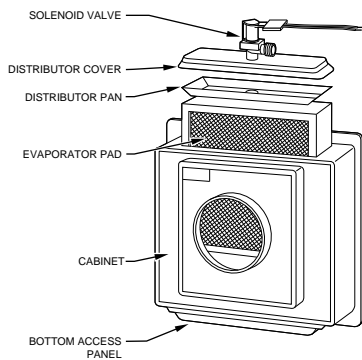

Fig. 6 — Model HUMCCLBP2018-A--
- On a Model HUMCCLBP or Model HUMCCLFP humidifier, loosen the thumbscrew that holds the distributor cover to the top of the cabinet. Lift up the distributor cover slightly to make certain that water is flowing from the solenoid valve into the distributor pan. Do not lift the cover off the cabinet more than 1 in. when water is flowing. (See Fig. 6 or 7 according to the model you own.)
- To disassemble either a Model HUMCCLBP or Model HUMCCLFP humidifier, first remove the water supply connection to the solenoid valve. Next, remove the screw that holds the distributor cover to the cabinet, and lift off the cover. Disconnect the drain line from the sump and loosen the thumbscrew(s) holding the sump to the cabinet. Remove the sump. Remove evaporator pad assembly. (See Fig. 6 or 7, according to the model you own.)